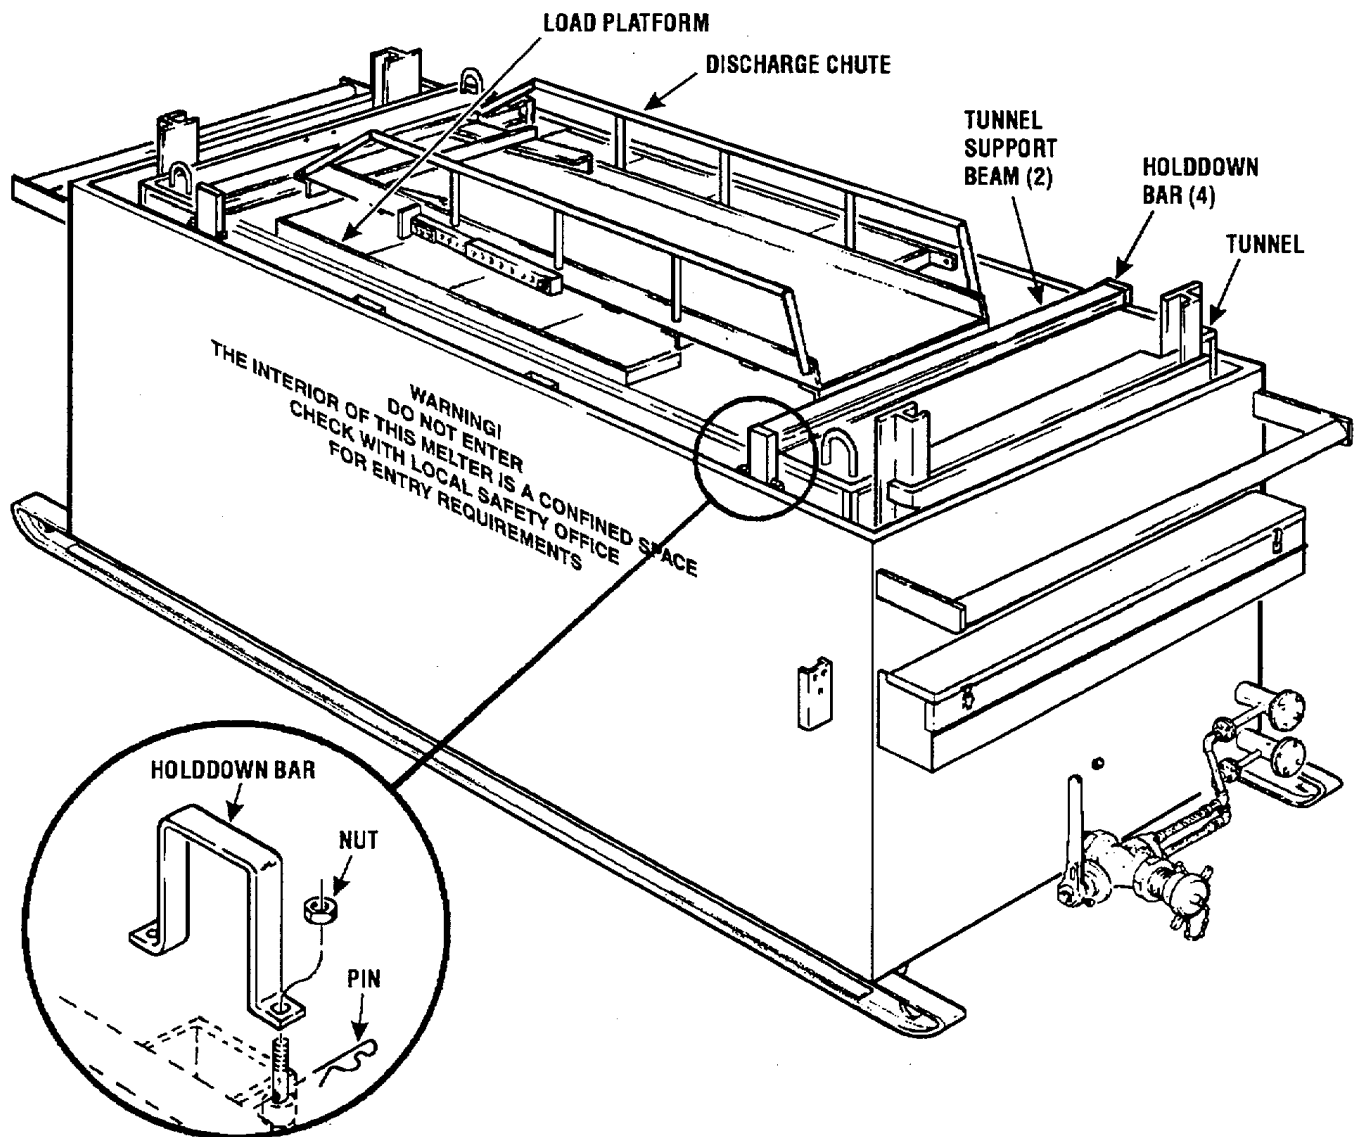

Figure 2-1. Asphalt Melter in Shipping Configuration.
f. Remove the four holddown bars, securing the tunnel support beams to the storage tank (Figure 2-1). Lift out the two tunnel support beams.